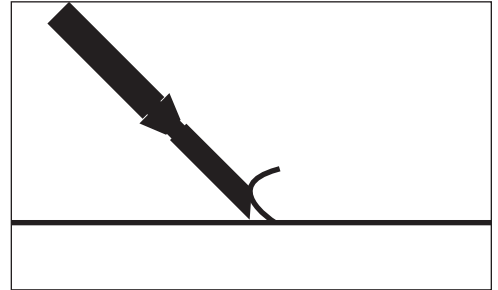

FIG. 4
- Normally, bevel on the blade is up for concrete (Figure 4); bevel down for wood (Figure 5).